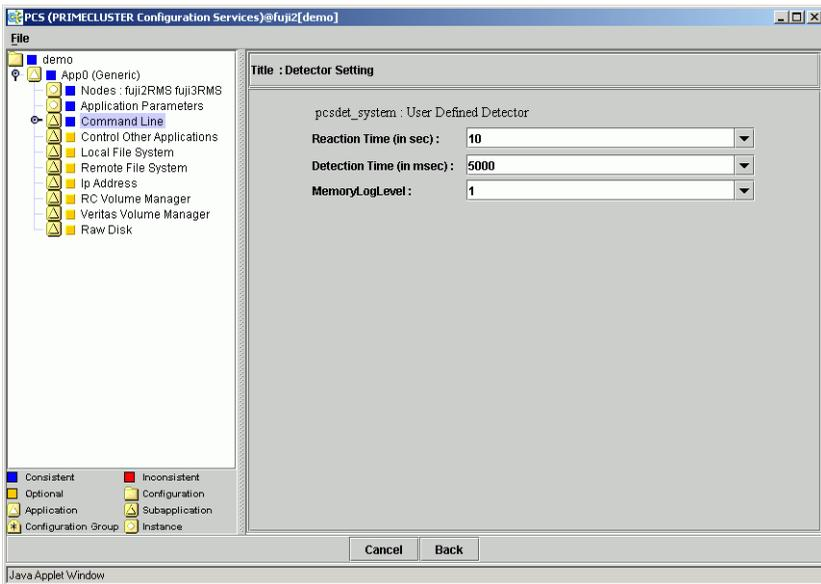

Figure 12: PCS Detector Details menu for pcsdet\_system
- Click the radio button of the detector you wish to modify, and you will advance to a window similar to the *pcsdet\_system* setting shown in Figure 12.